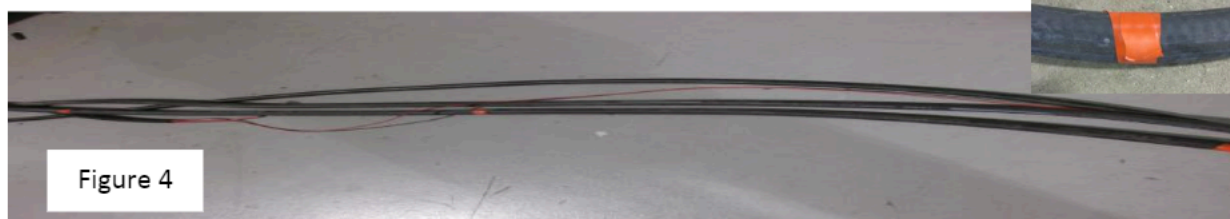

Figure 4
3. Stretch out the two 5/8" heater hoses (04 000 025)(created by the customer as noted in the Preparation Notes), the #6 (04 000 053) and #10 (04 000 055) refrigerant hoses, the Customer Created Harness and the Condenser Harness (01 000 352)(Figure 4). Mark one of the heater hoses with red electrical tape (or in some other way) at intervals to designate it as the Evaporator In hose (Figure 4 Inset).